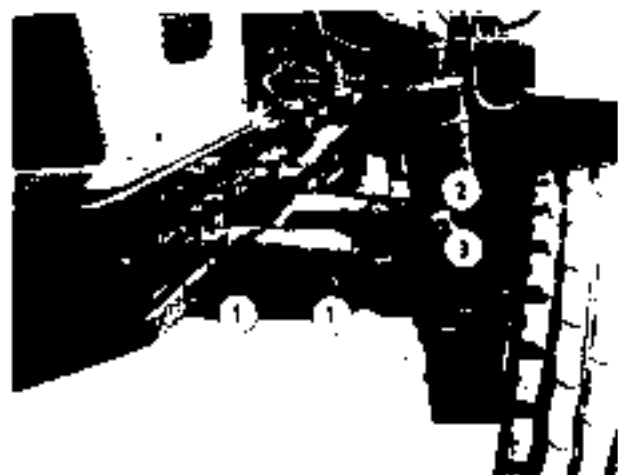

Fig. 35
2. Unscrew front axle extension bolt nuts and remove the bolts (Fig. 35,1).